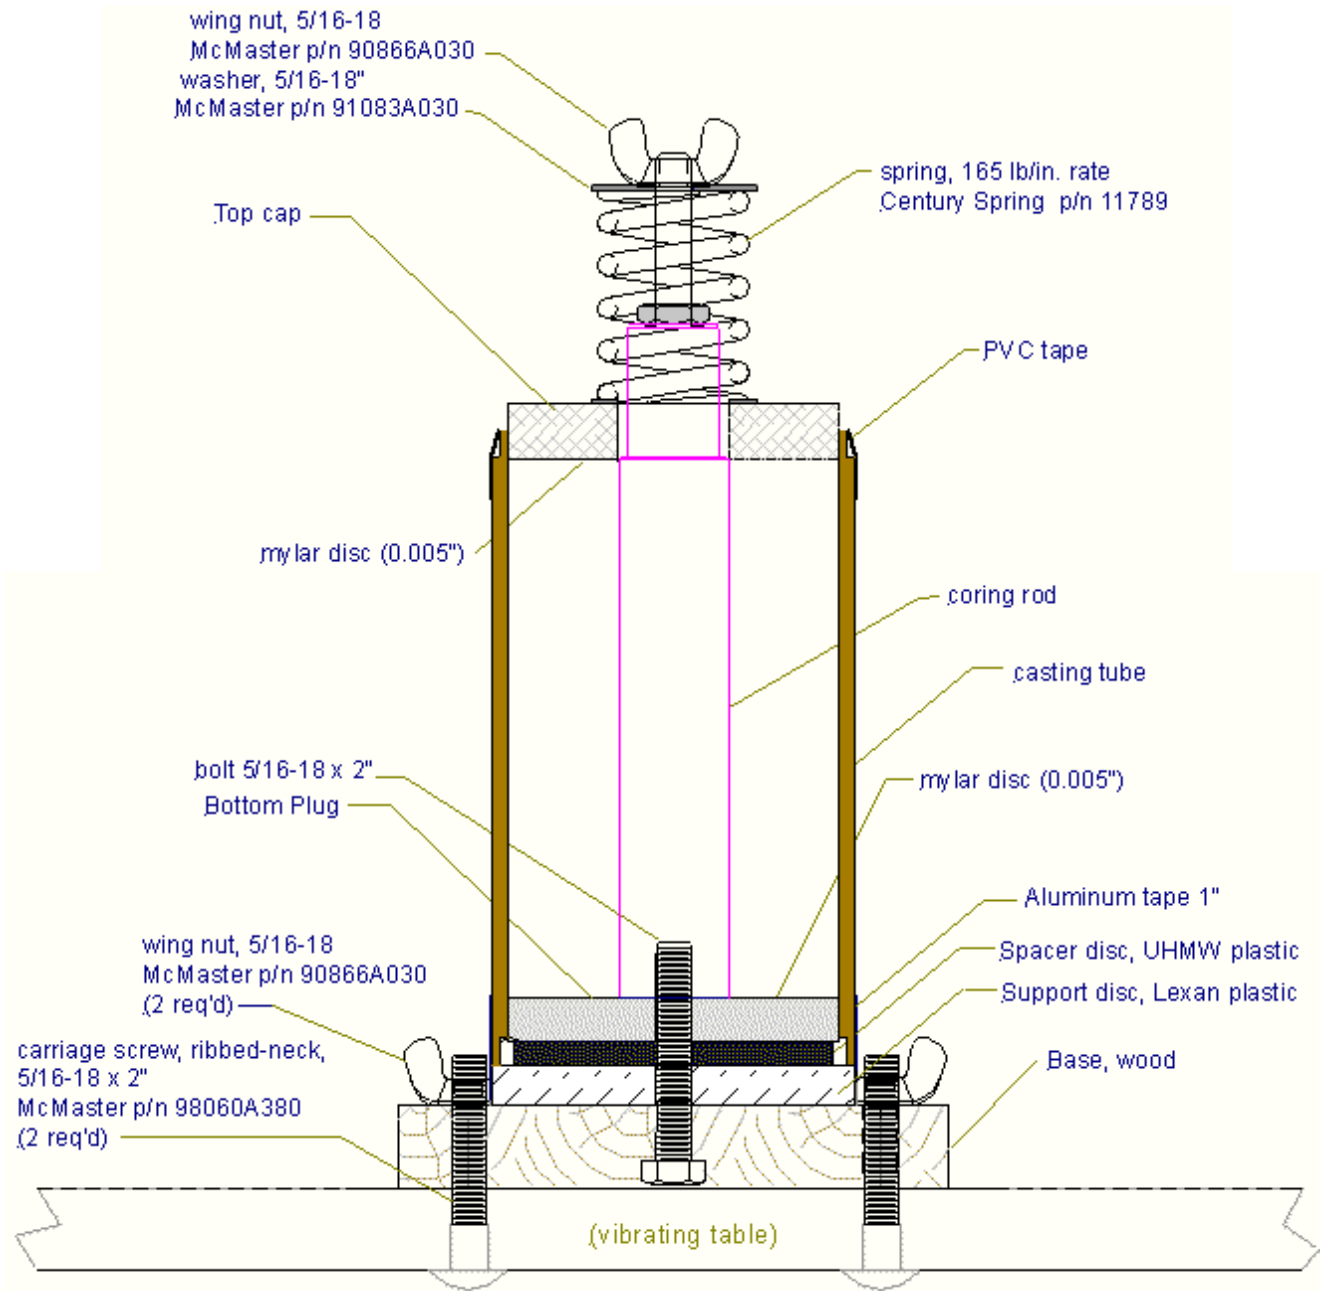

Figure 3 – Casting mould arrangement.
14. As is shown in Figure 3, place steel shim, spring and spacer over coring rod. Loosely install washer and wing nut.